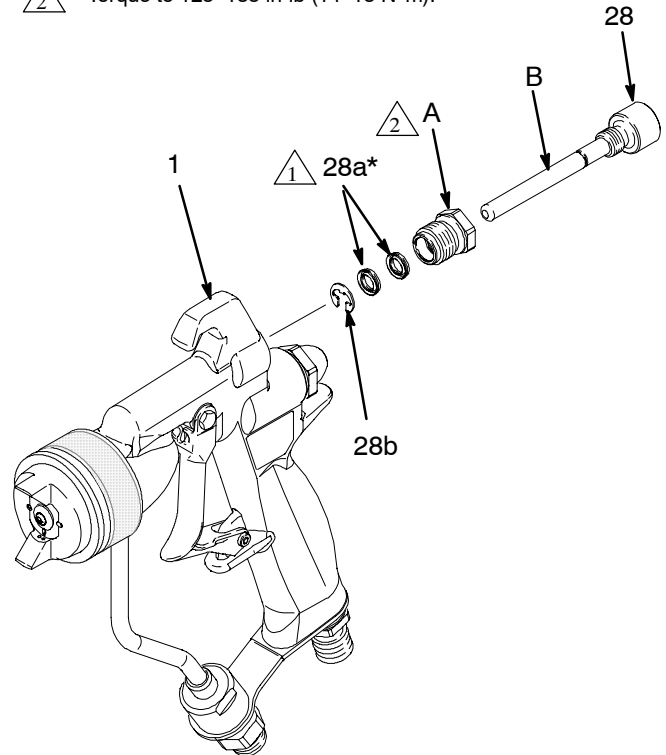

Fig. 19
2. Unscrew the fan valve packing nut (A) from the back of the gun body (1). Slide the fan valve assembly (28) out of the gun body. See Fig. 19.
3. Remove the retaining ring (28b) from the fan valve shaft (B). Carefully remove the two u-cups (28a) from the packing nut (A). Be careful not to damage the packing groove sealing surfaces.
4. Install the u-cups (28a*) in the packing nut (A) with the lips of the u-cups facing out of the packing nut, toward the gun body (1).
5. Reinstall the fan valve assembly (28) into the gun body (1). Screw the packing nut (A) into the gun body. Torque to 125–135 in-lb (14–15 N•m).